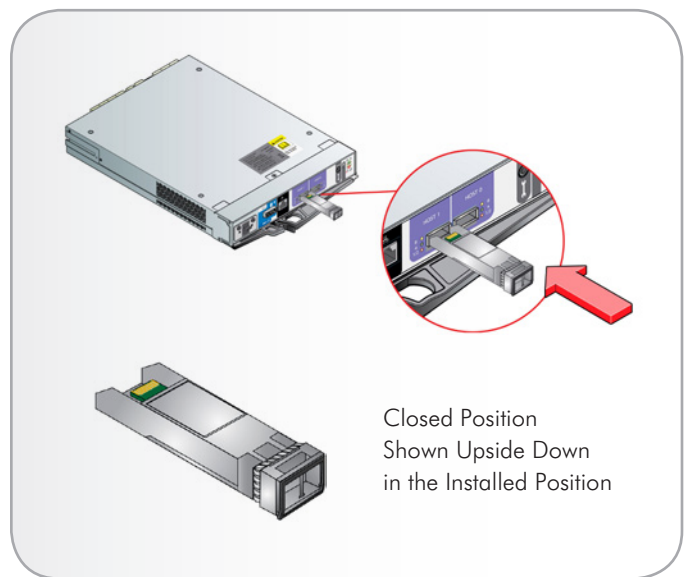

Fig. 86 - Installing the SFP Transceivers - RAID Controller Shown in the Installed Position
1. Insert the SFP Transceiver into the SFP cage and push to seat it. Ensure the ejector is positioned to its stored location (Fig. 86).